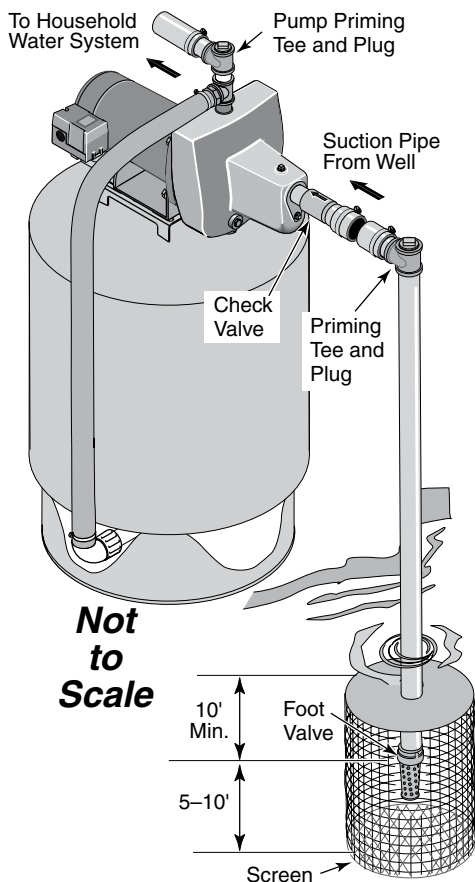

Figure 3: Surface Water Installation
INSTALLATION FOR SURFACE WATER (FIGURE 3)
- Step 2. Assemble a foot valve and suction pipe (see Figure 3). Make sure that the foot valve works freely. Use PTFE pipe thread sealant tape on threaded pipe joints. Protect the foot valve assembly from fish, trash, etc, by installing a screen around it (see Figure 3).
- Step 4. Install a priming tee, priming plug, and suction pipe to the pump (see Figure 3). Support the pipe so that there are no dips or sags in the pipe, so it doesn't strain the pump body, and so that it slopes slightly upward from the well to the pump (high spots can cause air pockets which can air lock the pump). Seal the suction pipe joints with PTFE pipe thread sealant tape. Joints must be air- and water-tight. *If the suction pipe can suck air, the pump cannot pull water from the well.*